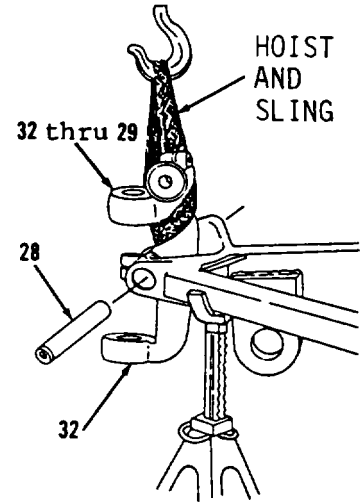
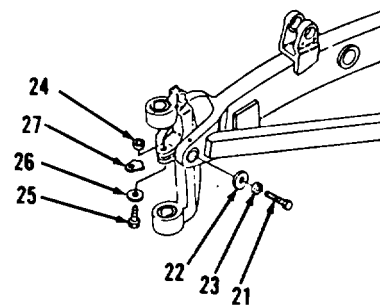

Figure 5-101.
Figure 5-100.
13. Attach hoist and sling to items 32 thru 29 as an assembly (Figure 5-101).
14. Position items 32 thru 29 as an assembly on vehicle.
15. Install pin (28). Groove in pin (28) must align with opening in arm (32).
17. Install lock (27), washer (26), bolt (25) and nut (24, Figure 5-100). Tighten nut (24) to 515 ft-lb torque.